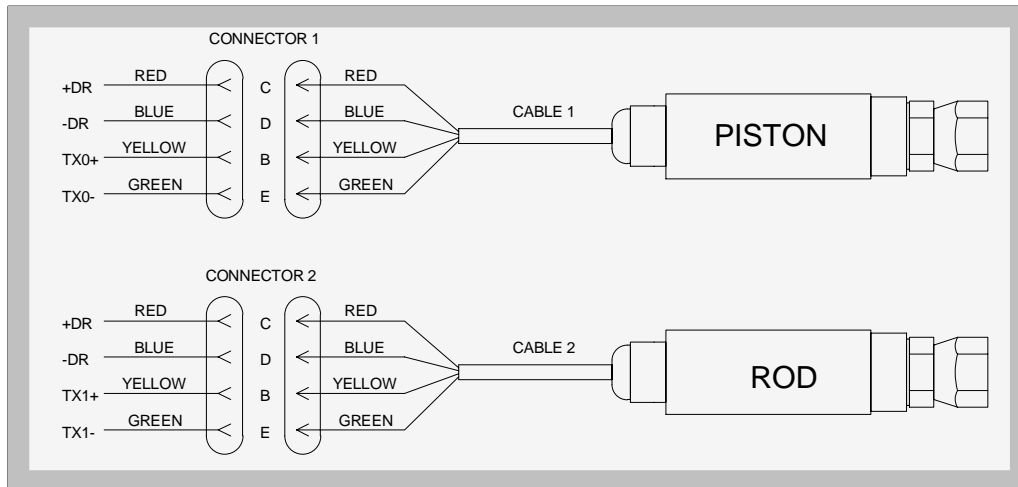

FIGURE 4.22 THE PRESSURE SENSOR CONNECTED TO THE COMPUTER
2. With the Digital Multimeter (DMM) set to the Ohms range, measure the resistance between pins "C" and "D" of connector MS3475W14-5PZ (see Figure 4.22). *The resistance should be $350\Omega \pm 10\Omega$.*